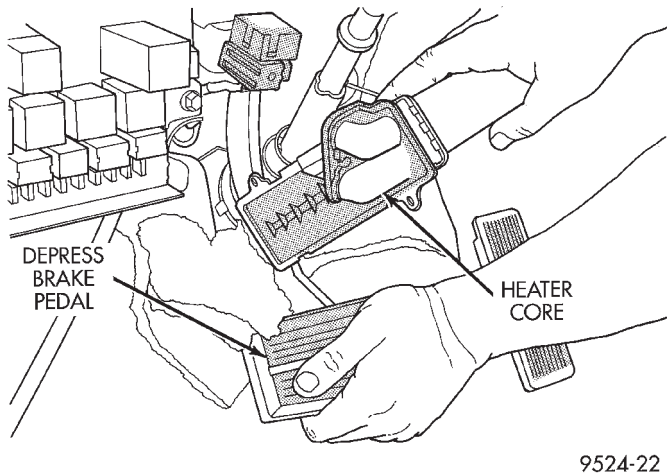

Fig. 37 Brake Pedal
(11) Depress brake pedal (Fig. 37) and remove heater core from HVAC housing.